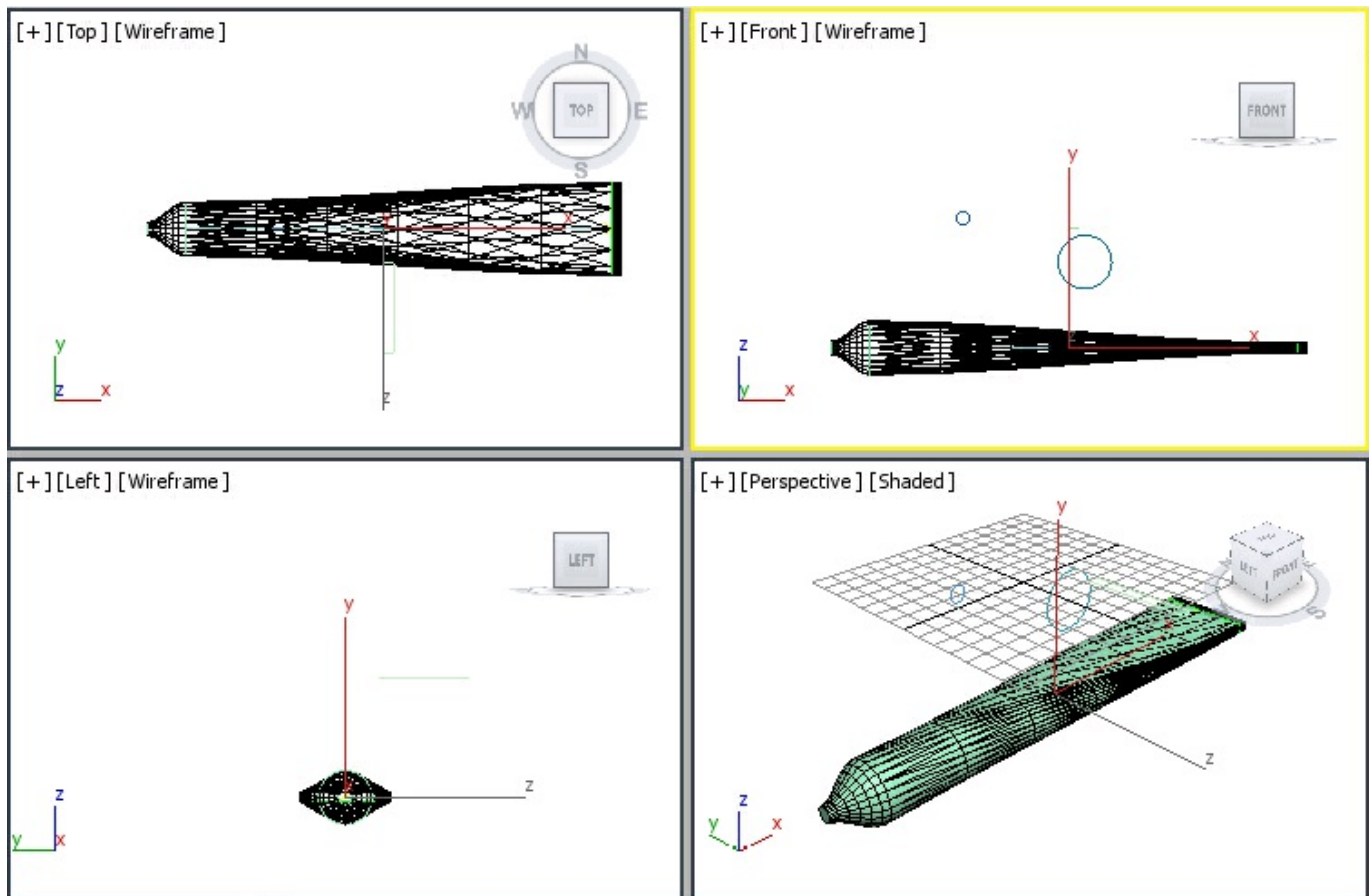

Figure 11-64 The shape of tube created in viewports
15. In the **Creation Method** rollout, choose the **Get Shape** button and move the cursor over *Rectangle001* in the Top viewport; the shape of the cursor changes. Select *Rectangle001*; the shape of tube is created, refer to Figure 11-64. Next, right-click in the viewport to exit the loft command.